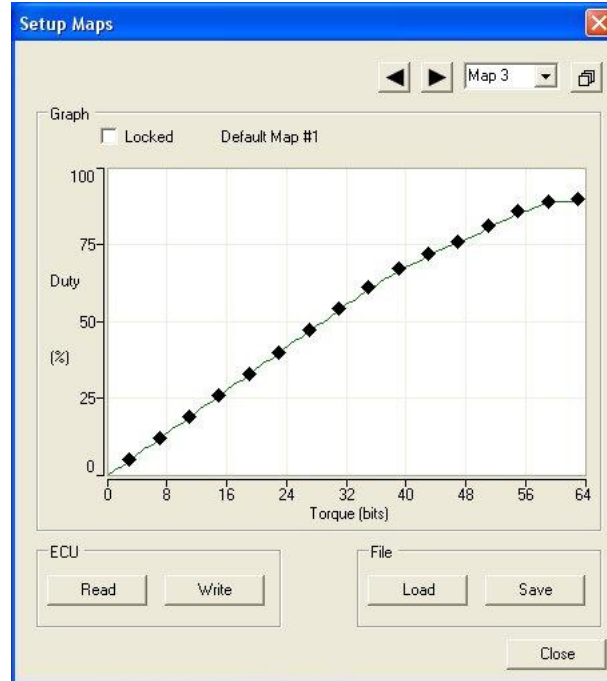

Figure 9 - Setup Maps Dialog (Map Edit)
- When the **Locked** checkbox is not checked edit markers are displayed at 16 places along the map (Figure 9). Use the mouse to drag each of the markers until the required map shape is obtained. Note that each marker is constrained by the markers either side of it.